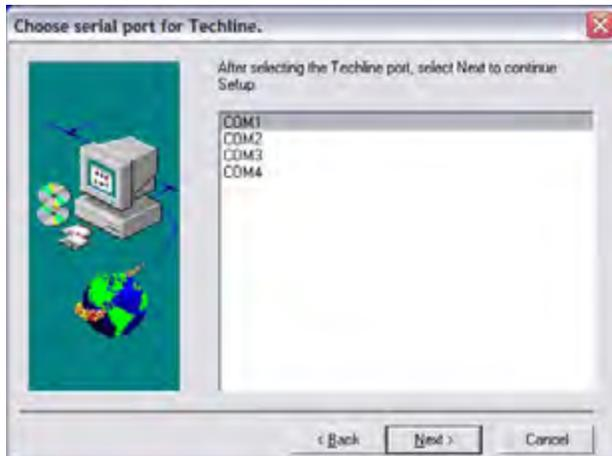

Figure 1.11: Choose Serial Port Window
- 4 Click the **Next** button. This displays the Choose Serial Port window (Figure 1.11 on page 5).